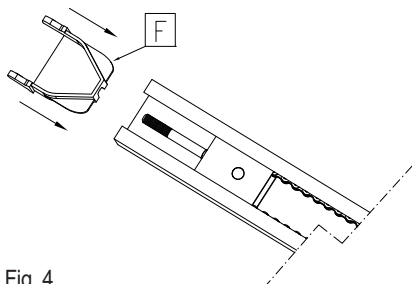

Fig. 4
- Insert part F in the guide (fig. 4)